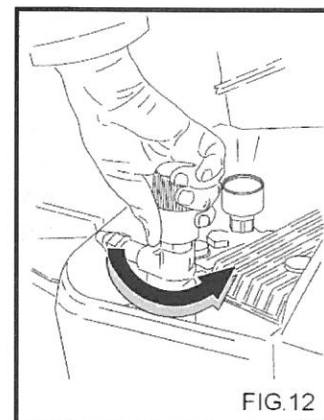

FIG.12
The pressure regulator (fig. 12), allows the operator to adjust the working pressure. When knob C is turned in an anti-clockwise direction (B) (minimum), the working pressure is reduced.